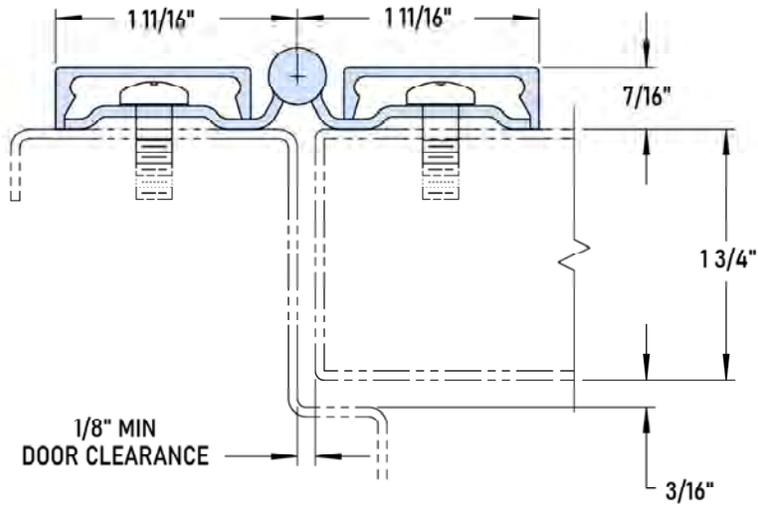

Fig. 1
- A. Place hinge on frame as shown (Fig. 1) allowing for 1/8" between top of hinge and underside of header.